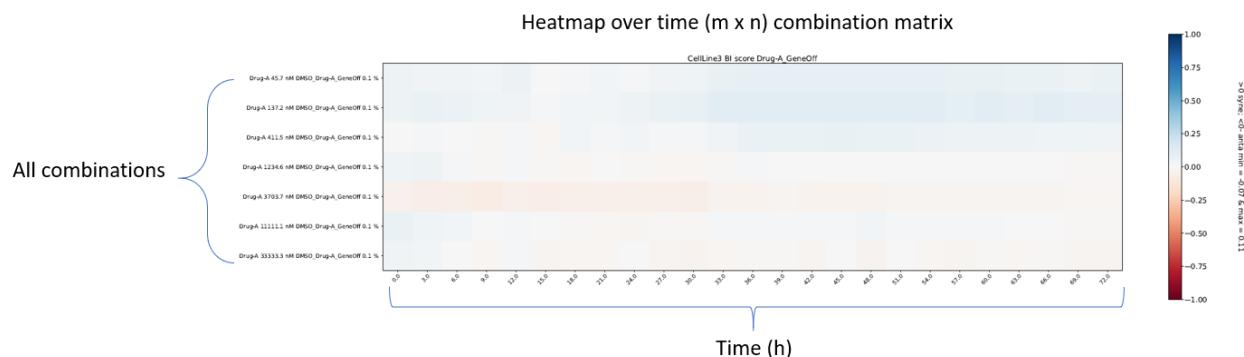

Figure 54: Heatmap over time for (m x n) matrix combination.
- Heatmap of BI score over time, see Figure 54.